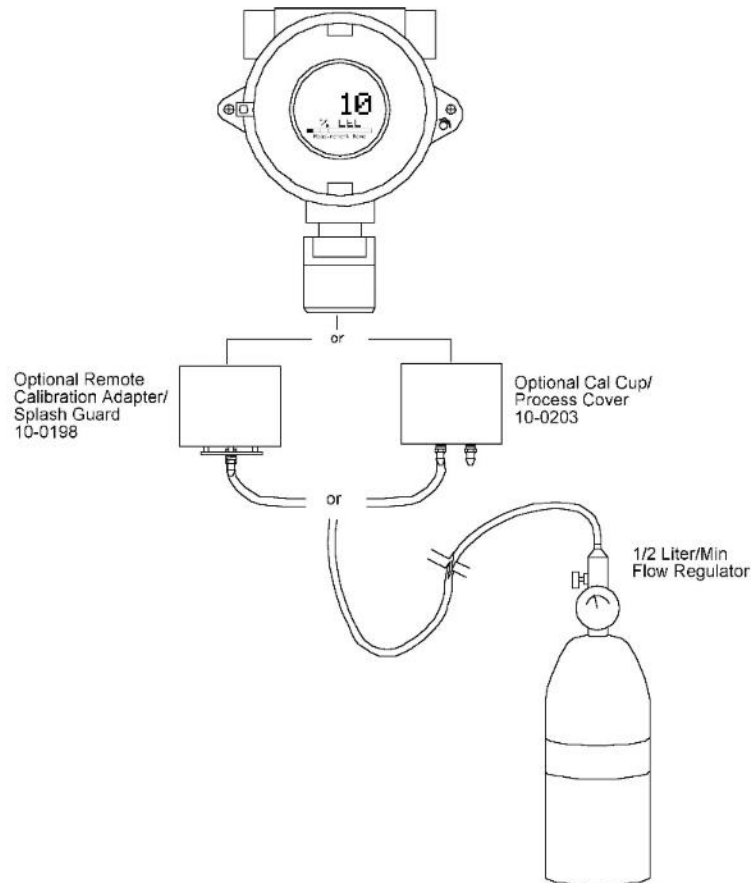

Figure 7.1
4. Apply a clean Zero Gas (Figure 7-1), using the Cal Cup, part number 299-0133-01. After the reading is stable (approximately one minute), swipe the EDIT key to Set the Zero Calibration. When a message that the Zero calibration was completed successfully, proceed to the next step.
5. Apply the correct, as indicated, Span gas (Figure 7-1) at 0.5 liters/min. After the reading is stable (approximately one minute), swipe the EDIT key to Set the Span Calibration. When a message that the Span calibration was completed successfully, the SensFlex will exit back to the Data Display Screen.